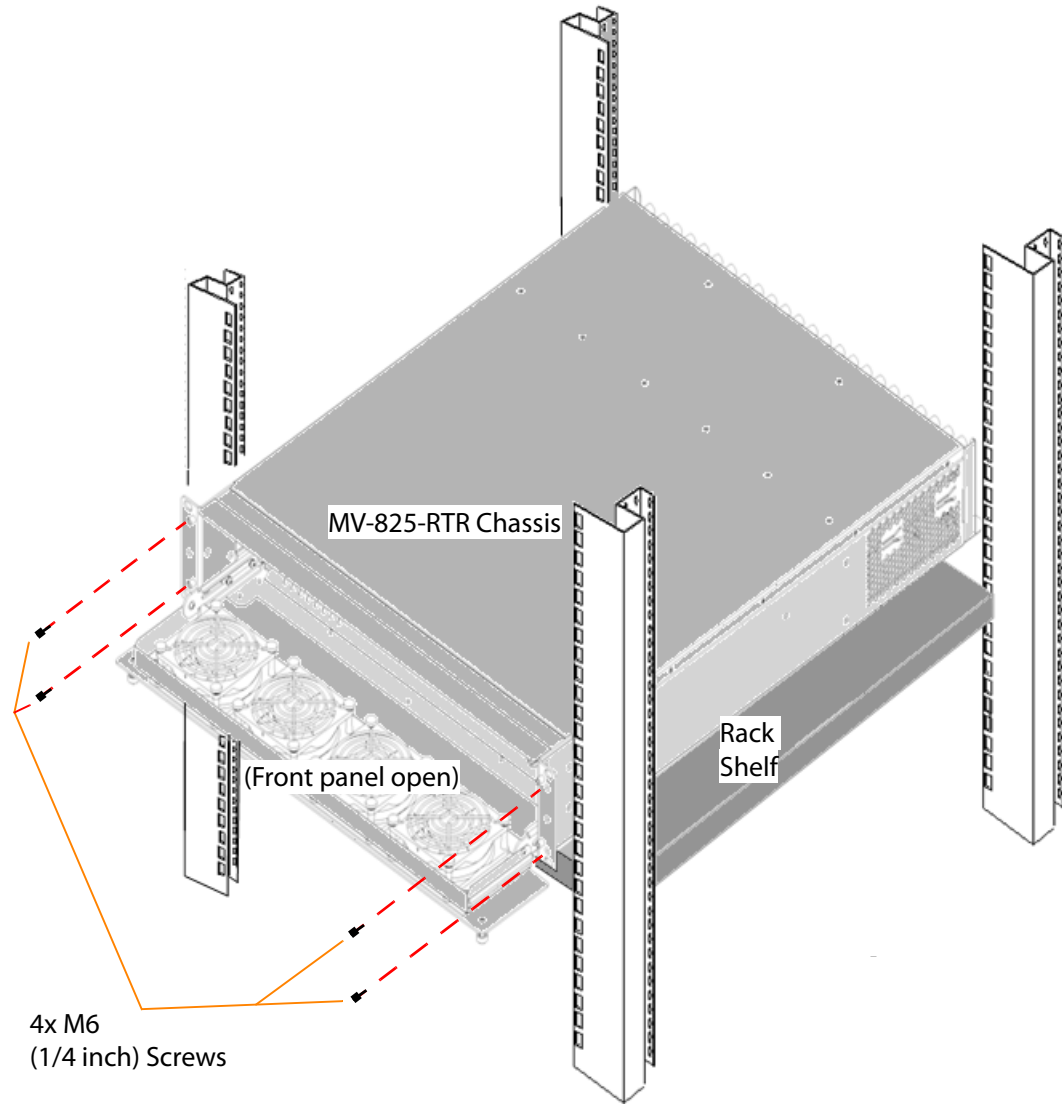

Fig. 3-4: Rack Mounting MV-825-RTR.
- 3 Secure the MV-825-RTR chassis in the rack at each mounting hole using 4x M6 (1/4 inch) screws. See Figure 3-4. (Screws are available from rack suppliers.)